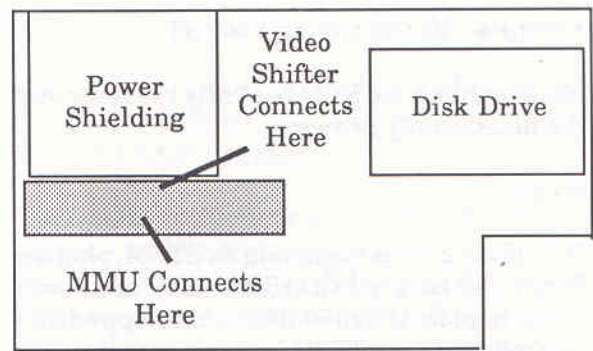
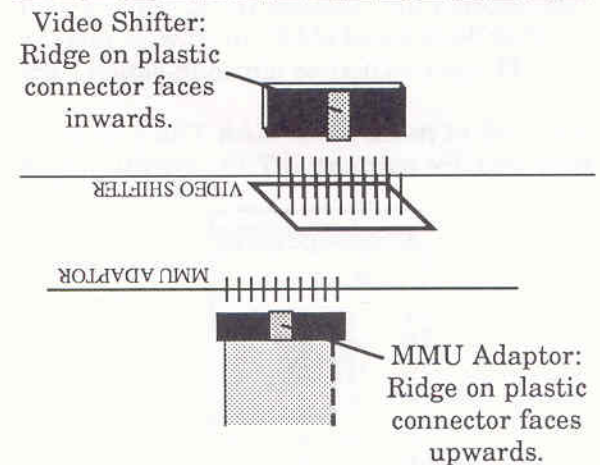

Figure 12 - The position of the RAM board in an STF/STFM. Place it up against the Power shielding on top of the main shielding.
Figure 14 - How to plug in the connectors.
(11) Carefully remove the RAM board from its protective static bag and place the bag on your worktop. Now place the RAM board onto the empty static bag. This will protect it while you locate a position for it in your ST.
(12) If you have purchased the XTRA-RAM upgrade unpopulated, you must now insert the RAM chips which you have purchased separately, as discussed in the box 'Inserting RAM Chips'. If you intend to go straightaway to 2.5MB, you need to upgrade the XTRA-RAM RAM board using the technique described on page 23.
(13) Figure 12 shows you the position that we recommend you place the RAM board for the STM and STFM. Connect the ribbon cable from the MMU and Shifter boards to the main XTRA-RAM RAM board (these should only be connected as shown in figure 14) at the places shown in figure 15 (each position is clearly labelled on the RAM board itself) and then place the RAM board in the position shown for your particular ST type.